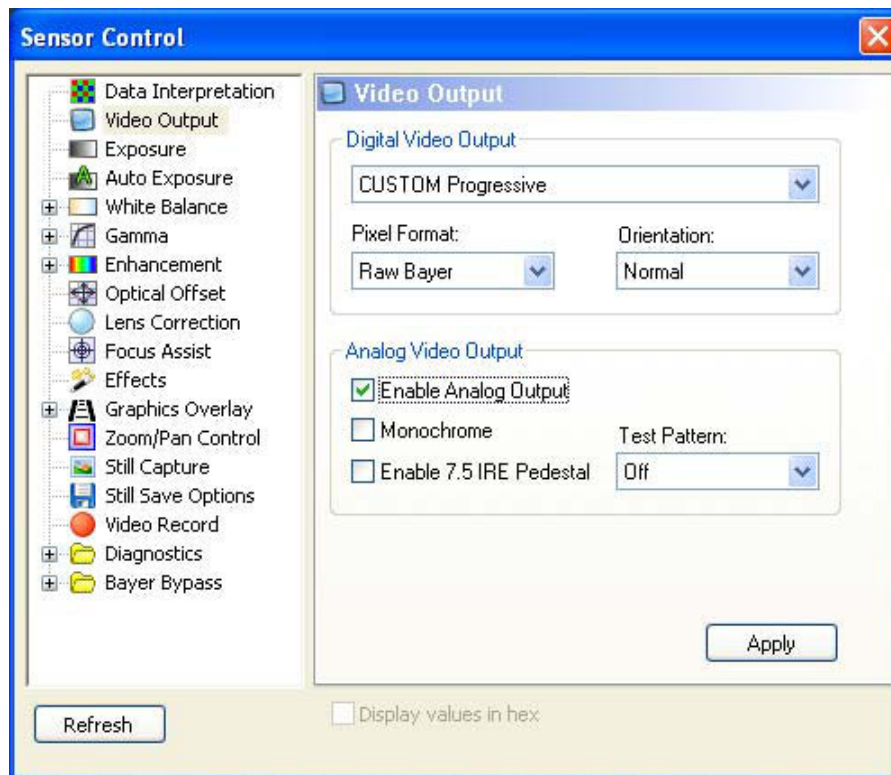

Figure 28. Video Output Configuration for Lens Shading Correction Calibration
4. The video output mode is now set to raw Bayer as shown in Figure 28.